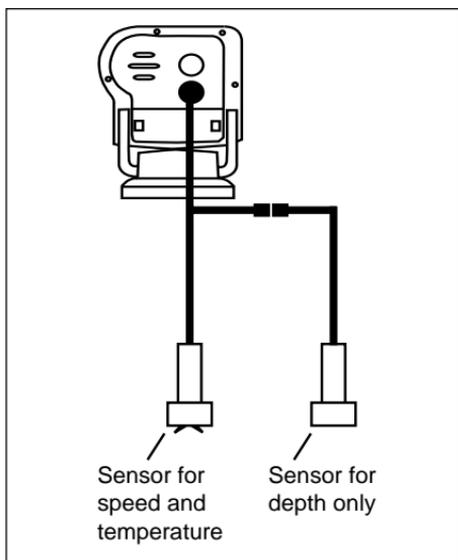

Fig. 2-14
2. Plug the cable from the depth-only transducer into the receptacle connector on the optional speed- and temperature-only transducer. The speed- and temperature-only transducer then connects at the transducer receptacle of the FishFinder 365. This is shown below in Fig. 2-14.